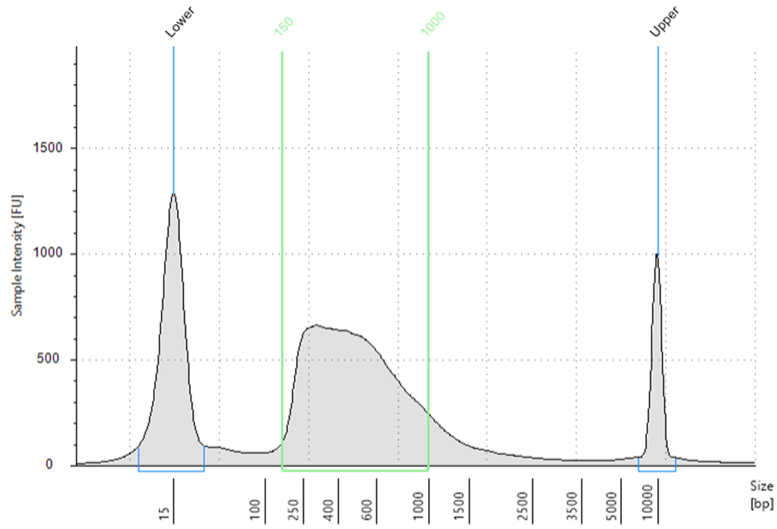

Figure 1. An example of cleaned up library profile from a TapeStation High Sensitivity D5000 ScreenTape assay.
3. To determine the library concentration, set the Region on the Bioanalyzer or TapeStation analysis software from 150 bp to 1000 bp. Record sample Concentration (nM) for this region (see Figure 1). To determine the library size, set the Region from 150 bp to 3000 bp. Record sample Average Size (bp) as Library Size. A good-sized library should have most library fragments under 1000 bp.